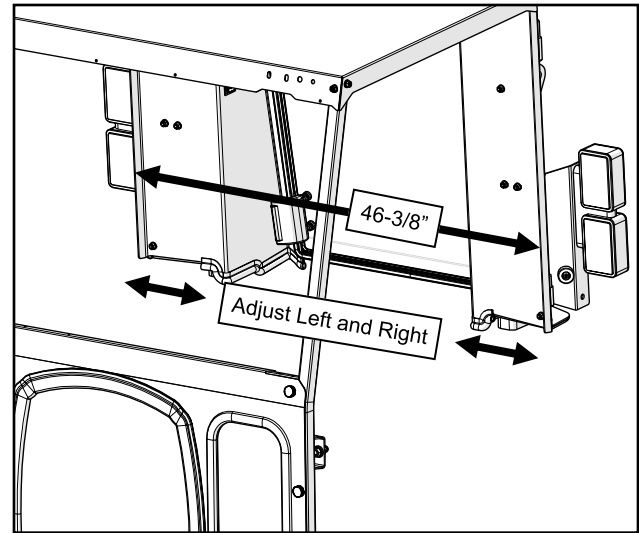

Fig. 9.1 (Align Legs Left and Right)
- 9.1** Adjust the bottom of the rear legs side to side to get the outer surfaces matched up with the sides of the rear fender. See figure 9.1. The outer flanges of the legs should be about 46-3/8" apart, outside to outside.